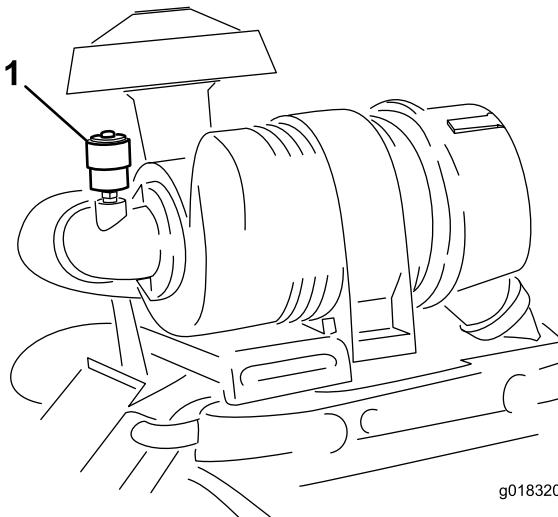

Figure 44
Service the air cleaner filter only when the service indicator (Figure 44) requires it. Changing the air filter before it is necessary only increases the chance of dirt entering the engine when the filter is removed.
- Reset the indicator (Figure 44) if it shows red.